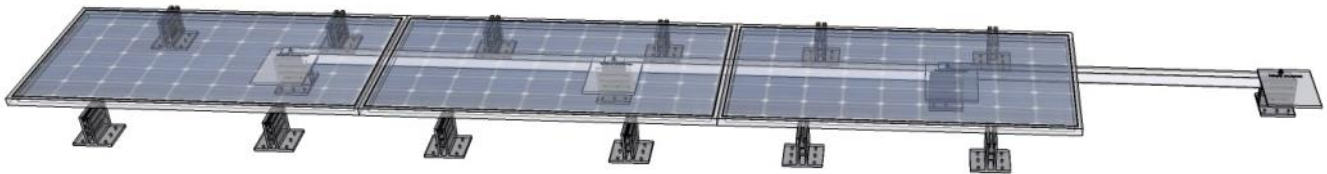

Fig. 3
- Mounting the modules landscape requires 66" micro-rails (fig 3).